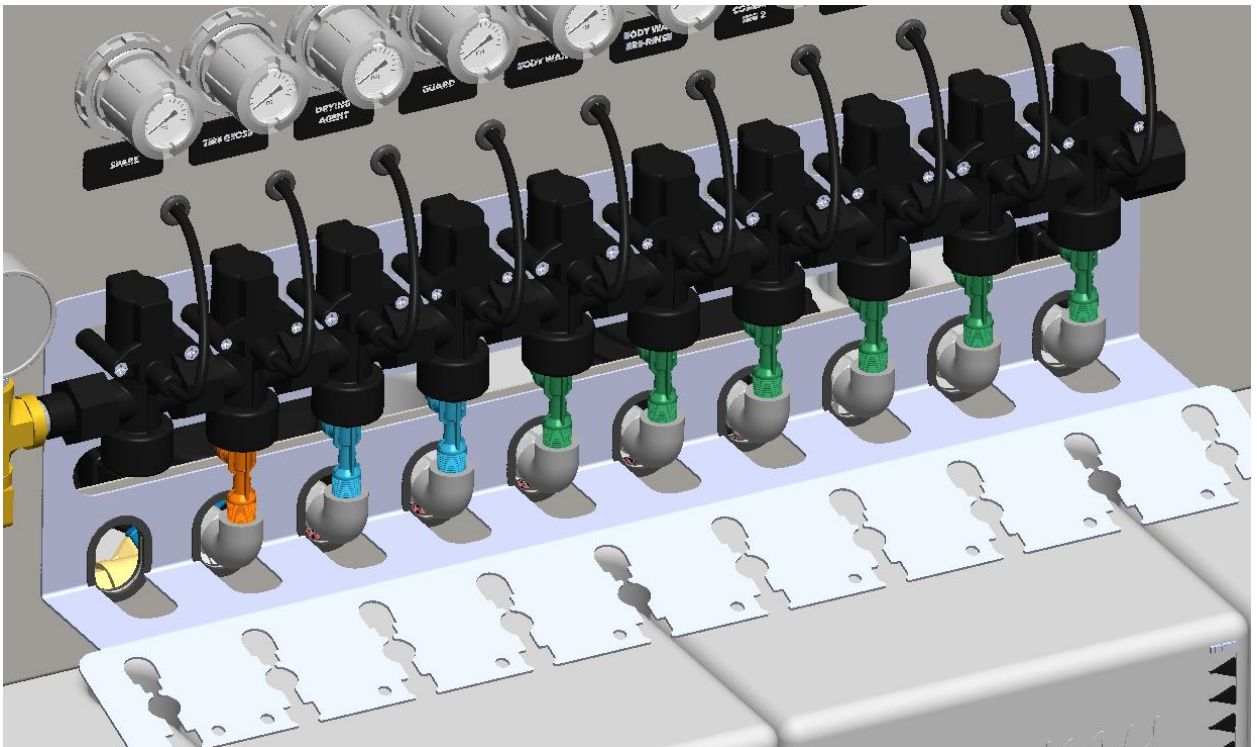

Figure 3. Bracket inserted behind manifold.
4.) Slide bracket behind manifold as shown in Figure 3. Align bolts with slots.